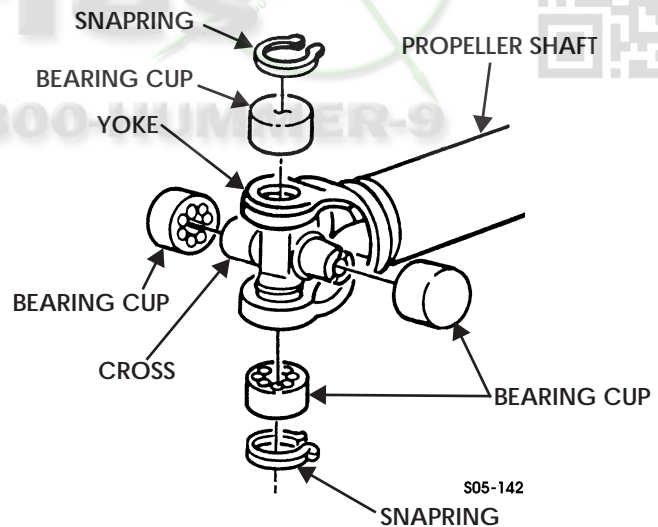

Figure 5-198: Universal Joint Components
8. Reverse position of sockets and press remaining bearing cup out of yoke (Figure 5-198).
1. Install cross into yoke (Figure 5-198).
4. Press bearing cup into yoke far enough to install snapring and install snapring into yoke (Figure 5-198).
7. Press bearing cup into yoke far enough to install snapring and install snapring into yoke (Figure 5-198).